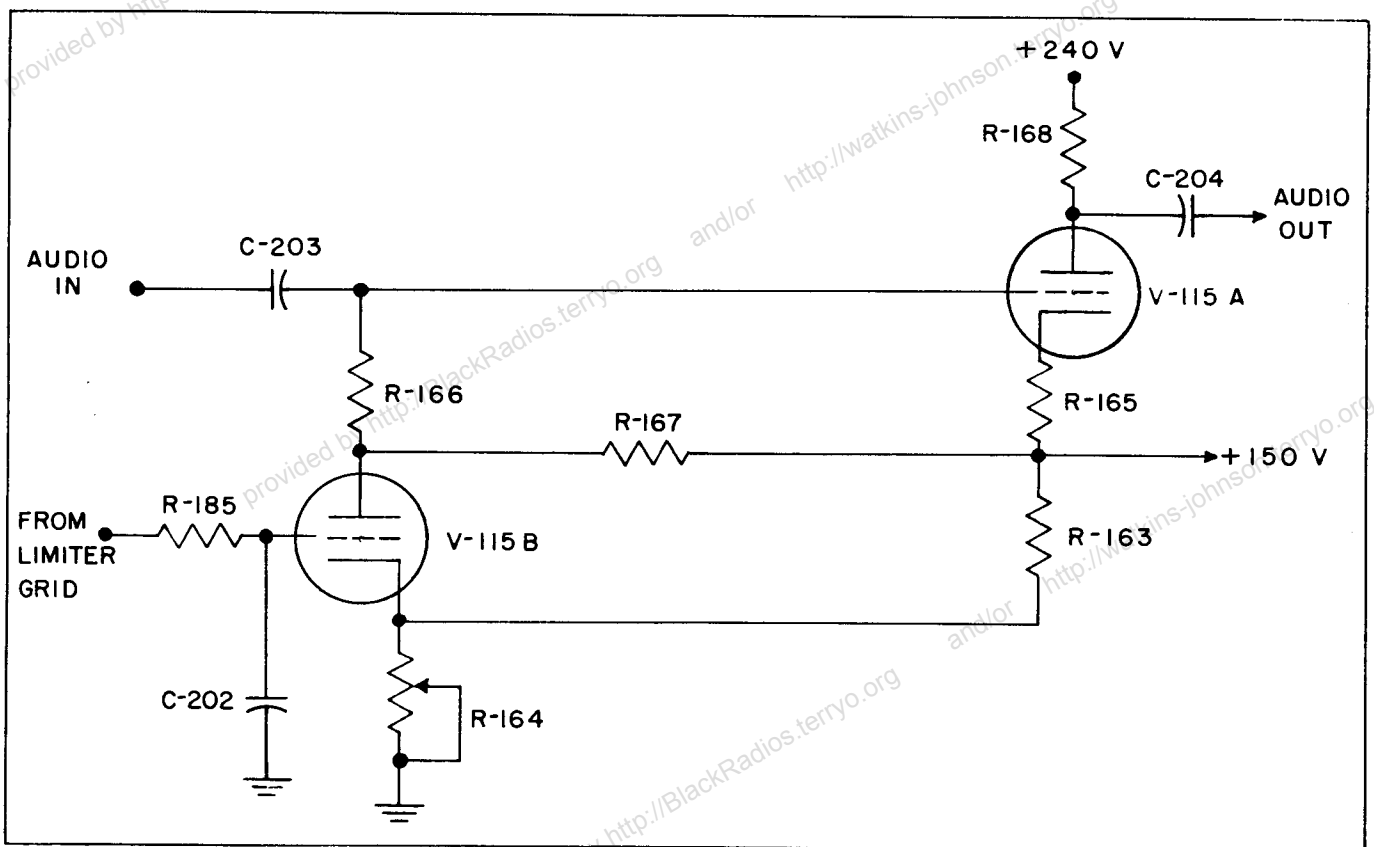

Figure 2-2. Simplified Schematic, Receiver Squelch Circuit
C. The Squelch Circuit. - The squelch circuit is best described with the aid of the simplified schematic of Figure 2-2. V-115/A acts as a gated audio amplifier stage, while V-115/B serves as a DC amplifier and gate generator. The circuit is connected in such a manner that V-115/B has zero grid voltage when no signal is being received, and has a negative signal when a carrier is being received. The audio amplifier stage, V-115/A, will pass an audio signal when the DC amplifier V-115/B is nonconducting, and will not pass an audio signal when V-115/B is in a conducting condition. In this manner the audio circuit is disabled when no carrier is being received. The carrier strength necessary to make the audio section operative is adjustable by the threshold (squelch) control resistor, R-164. The operation of this circuit is detailed in the following paragraph.